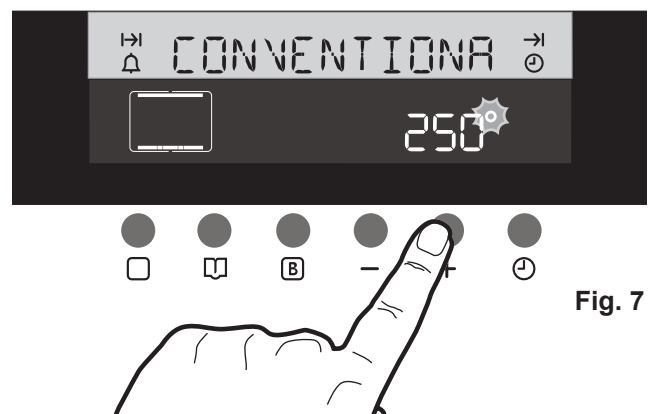

Fig. 7
4. Set the temperature to 250°C using button "+" (Fig. 7).